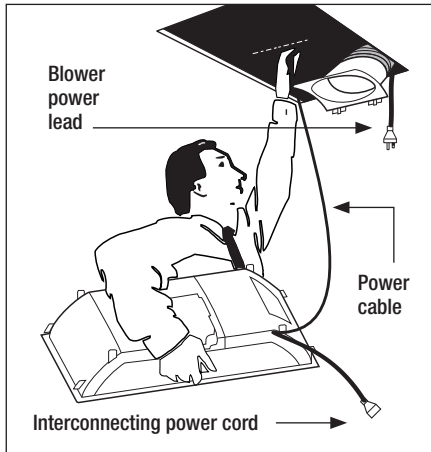

Fig. 16
1. Feed ducting and blower through hole in ceiling. While feeding ducting into ceiling direct it towards the installation position of the outlet grille. Position blower so that the short length of ducting is stretched out and Transition piece along with stripped or terminated wire is sitting next to the hole as per Fig. 16.